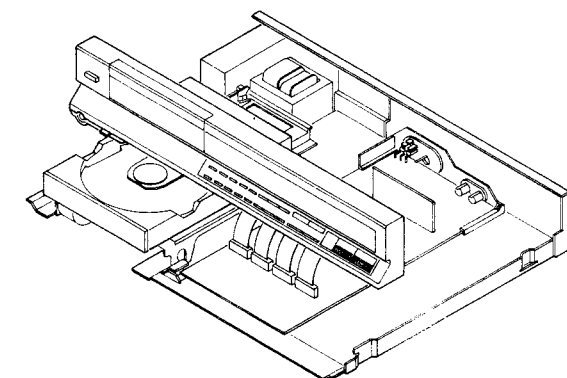

Fig. 25
3. Check the P.C.B. as shown in Fig. 25.